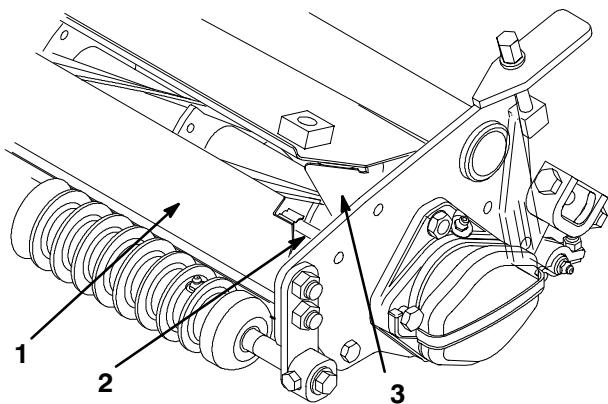

Figure 10
- A. Remove and discard the front shield assembly (Fig. 10). Also, remove and discard the shield mounting studs and fasteners secured to each cutting unit side plate.
C. Bend the grass shield side deflectors outward until they are flush with the cutting unit side plates (Fig. 10).